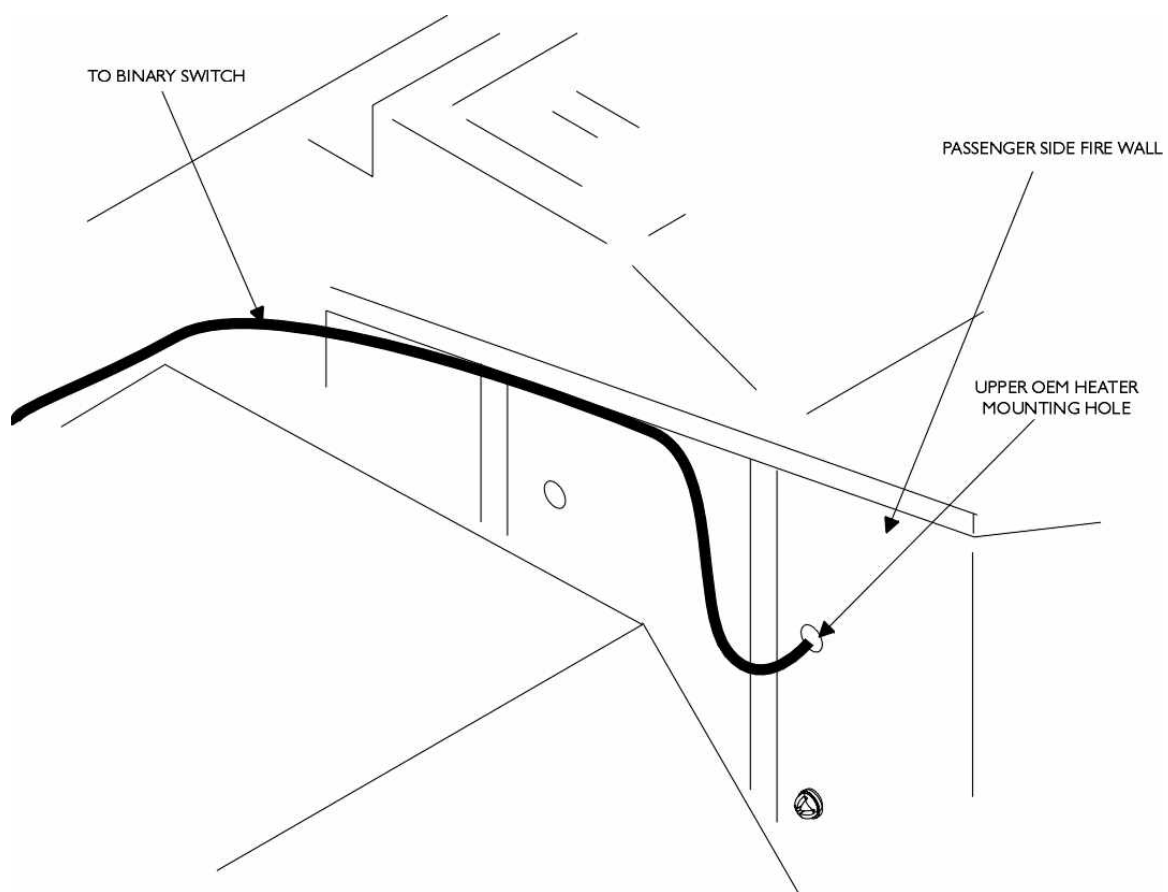

Figure 5
39. Run binary switch wire thru the OEM heater mounting hole as shown in Figure 5.